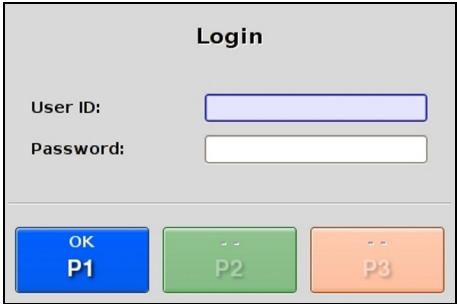

Fig. 9: Login screen
The splash screen is followed by the login screen (see Fig. 9).
- ▷ In the event of a failed log-in, Fig. 11 is displayed. Press **P1** on the keyboard to return to the log-in screen (see Fig. 9)